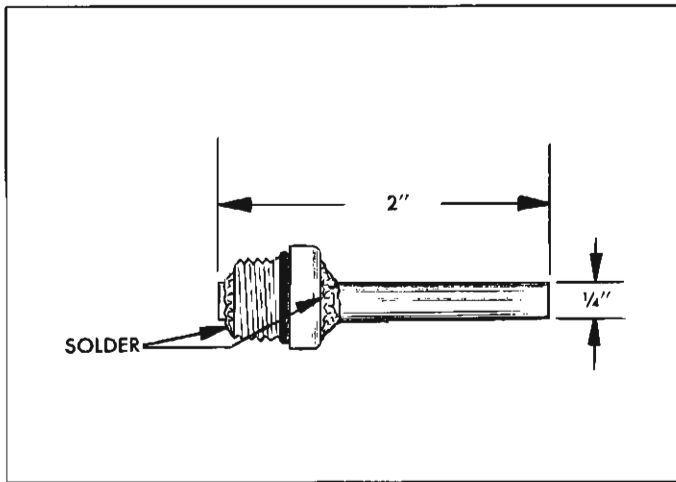

Fig. 82—Reservoir Filler Plug Adapter
- b. Install two inch length of metal tubing (1/4" O.D. x 3/16" I.D.) into center of filler plug and solder tubing on both sides of filler plug to form air tight connection. See Figure 82.